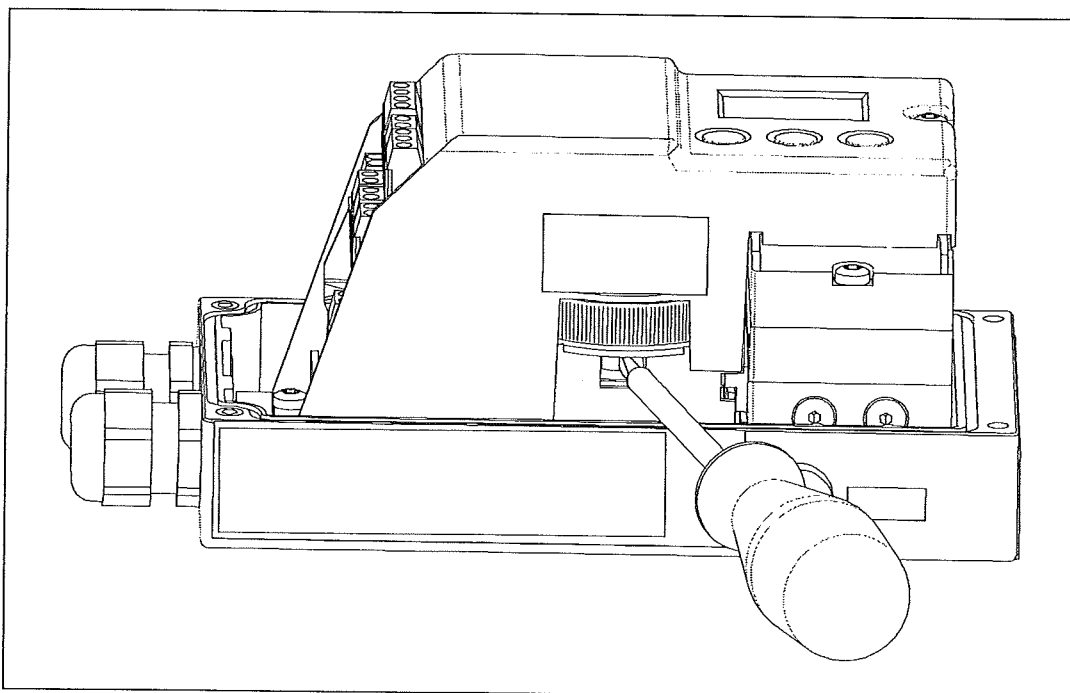

Figure 2 Locking the slip clutch
3.2.1 Assembly procedure (see Figure 2)